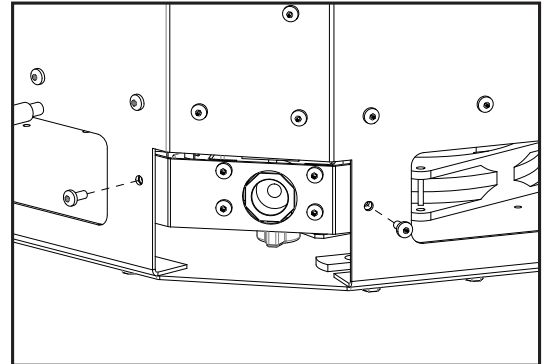
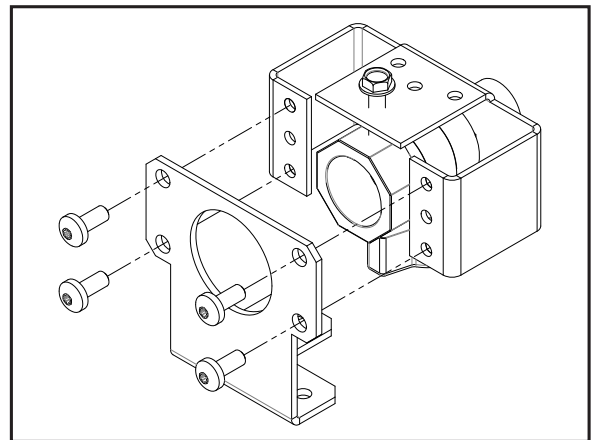

Figure 86: Gas Plate Disconnection
Figure 88: Gas Adapter Connection
1. Disconnect the two (2) T20 screws securing the ball valve plate (see Figure 86).
2. Disconnect the four (4) T20 screws securing the ball valve.
3. Loosen off ball valve jam screw and reattach ball valve cradle onto the relocation plate (included in the manual bag, refer to Figure 88 for proper geometry and orientation). Re-tighten jam screw and ensure ball valve is secure.